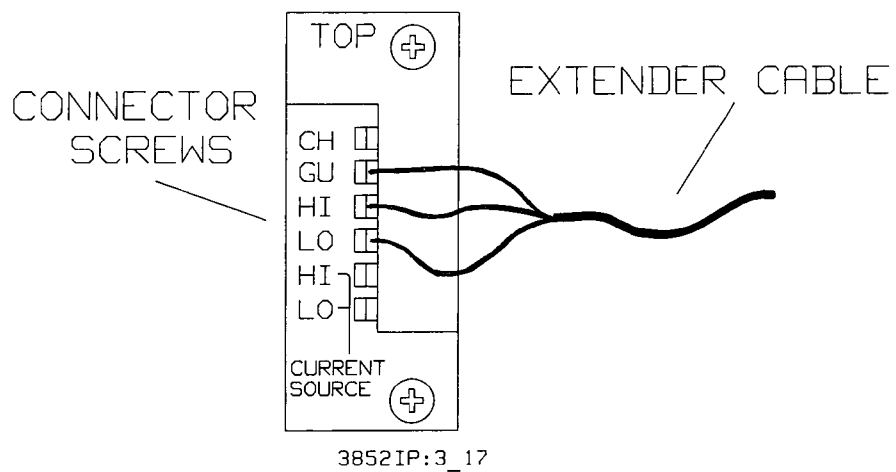

Figure 3-17. Connecting the Analog Extender Cable
3. Insert the cable wire into the terminal until only the insulation is visible (Figure 3-17). Tighten the screw to secure the wire in place.